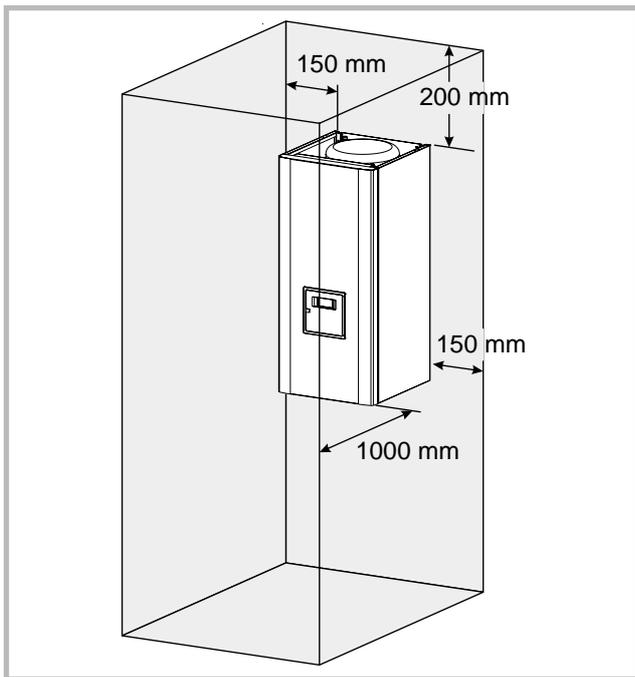

Figure 15 - Minimum installation clearances around the hydraulic module and distances to the combustible partitions
- To facilitate maintenance and to allow access to the various components, we recommend that you provide sufficient space all around the hydraulic module (figure 15).